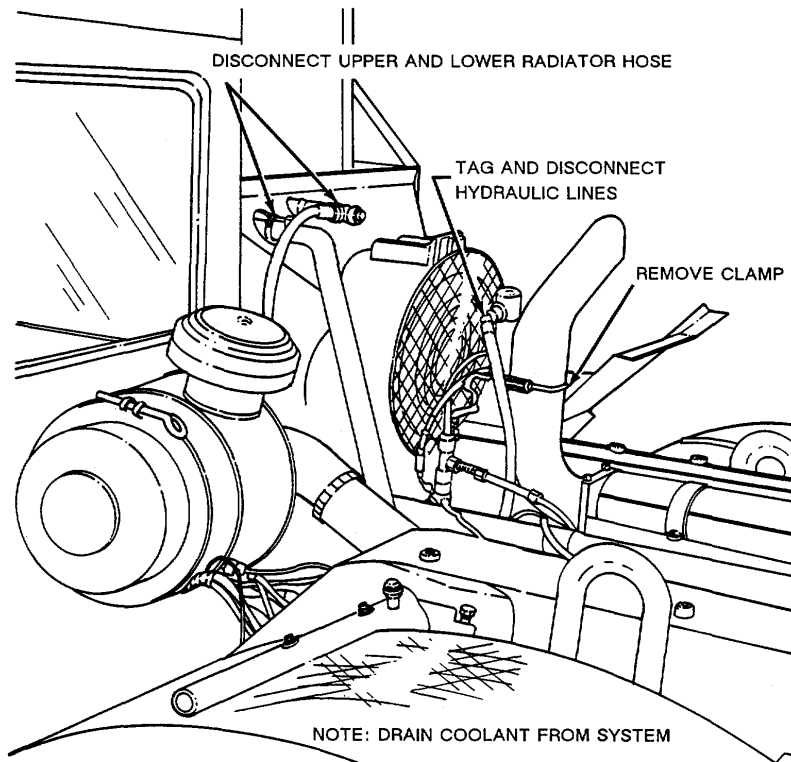

Figure 4-47.2. Carrier radiator, removal and installation (Model 2385) (Sheet 1 of 2).
**b. Removal (Model 2385).** Perform steps (1), (2), and (3) in subparagraph a above and remove the radiator as shown on figure 4-47.2.